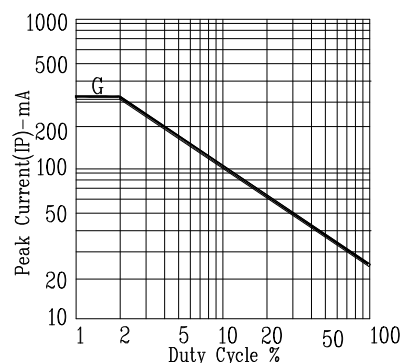

Fig5. MAX. PEAK CURRENT VS. DUTY CYCLE % (REFRESH RATE 1KHz)
* see figure 5 to establish pulsed condition